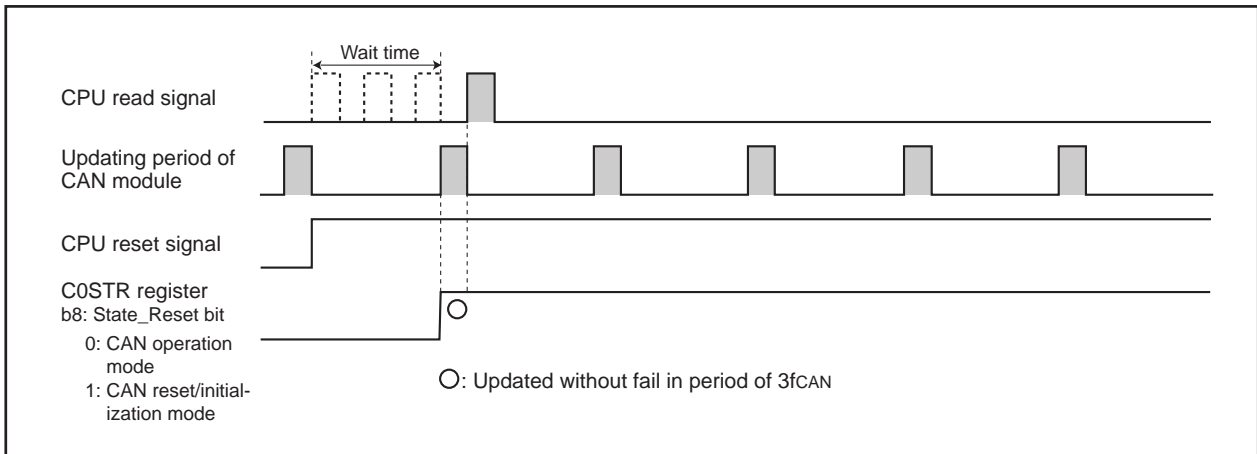

Figure 20.3 With a Wait Time of 3fCAN Before CPU Read
1. There should be a wait time of  $3f_{CAN}$  or longer (see Table 20.1) before the CPU reads the C0STR register. (See Figure 20.3)